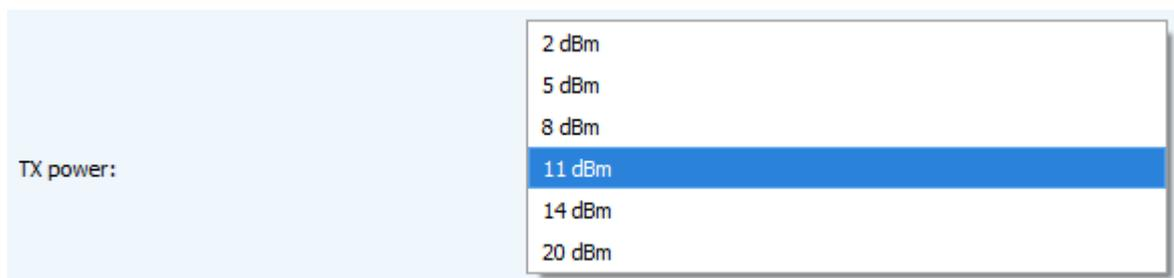

Figure 24 – Choice of the TX power
3.5.2.8 «TX power» (not displayed in the "Simple" mode) – the device RF transmitter power has adjusted to this value when sending packets to the LoRaWAN network (fig. 24). This option can be change by the network server.